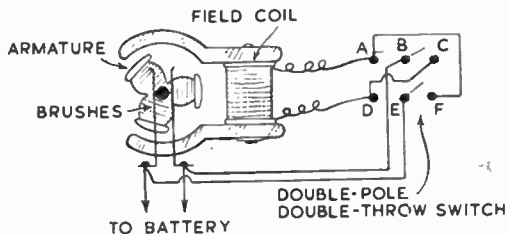

Fig. 1—Connections for reversing switch
Fig. 1 shows how a motor with a wound field coil (e.g., not having a permanent magnet) can be reversed. The direction of rotation of the armature depends upon the magnetic polarity of the armature and field magnets. When the double-pole double-throw switch is thrown to the right, current goes from (B) to (C), and from (E) to (F). When the switch is turned to the left, current goes from (B) to (A), and from (E) to (D).
Small spring washers are placed under the bolt-heads to maintain good contact. The metal contacts should not be so long as to span terminals (C) and (A), or (D) and (F), when in the central position. Connections will be seen from Fig. 1. Two short leads at the back of the switch connect (A) and (F), and (D) and (C).